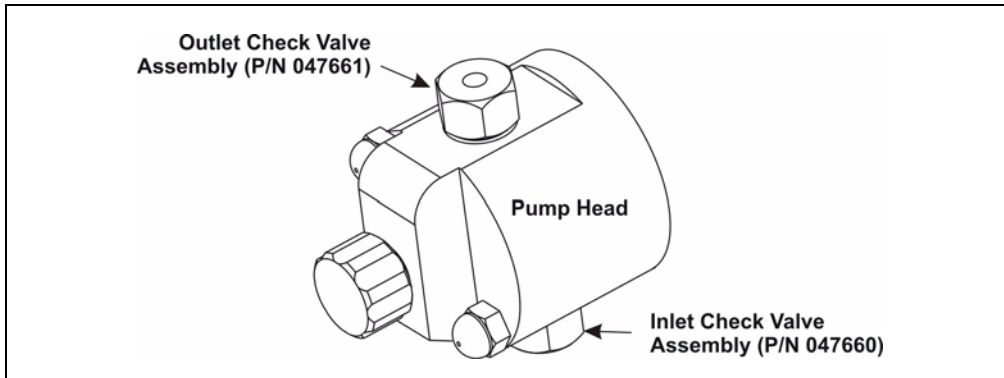

Figure 5-5. Pump Head Assembly
4. Disconnect the tube fittings from both the inlet and outlet pump check valve housings (see Figure 5-5).
3. Disconnect the tube fittings from the inlet and outlet check valves (see Figure 5-5).
17. Reconnect the liquid lines to the inlet and outlet check valves on the pump head assembly (see Figure 5-5).